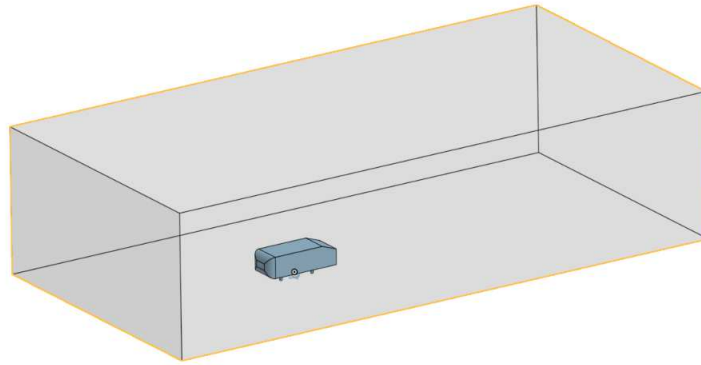

Figure 2.3: Enclosed Ahmed body.
| Figure 2.3: Enclosed Ahmed body | 6 |
- 7) The model should now look similar to figure 2.3 shown below.